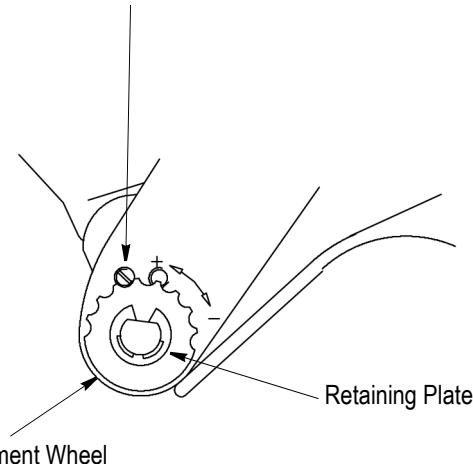

Figure 4
6. RATCHET (Crimp Height) ADJUSTMENT (Figure 4)